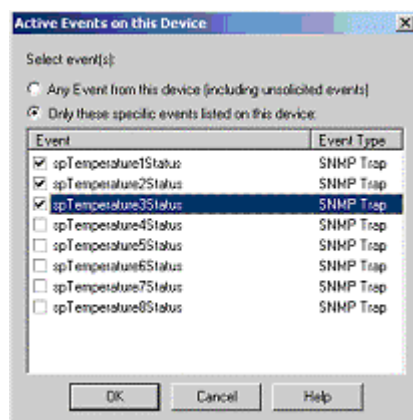

Figure 14 Active Events dialog box
5.8 Press Select Events button to open Active Event dialog box shown in Figure 14.
5.9 Select “Only these specific events listed on this device” and activate desired trap events by clicking the check box corresponding to them. WhatsUp Gold will send a notification when it receives an active trap event. In figure 14, the first three events are active.